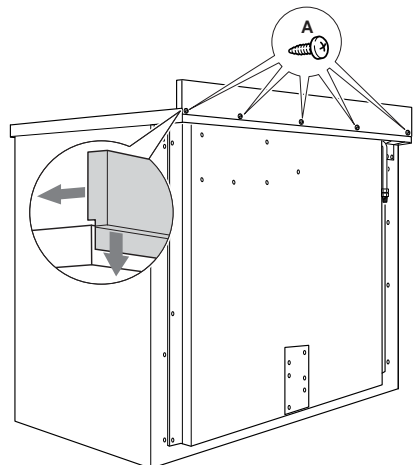

Fig. 2 Fixing the backguard
- Position the backguard as shown in Fig. 2 and fix it by screwing the five screws "A".